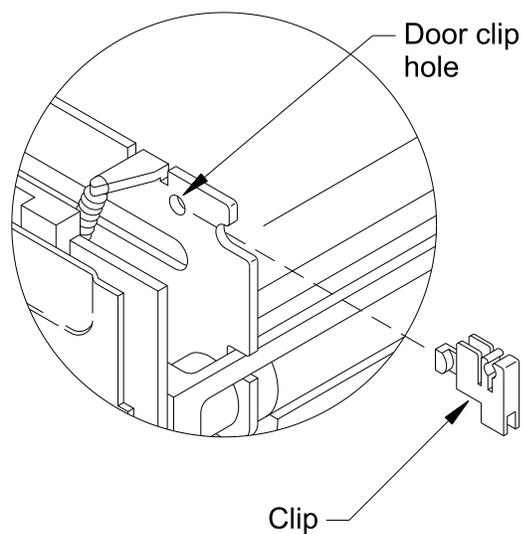

Figure 8 Replacing a door clip (left side shown)
4. If the door clips have become damaged or worn, replace them. To remove a door clip, insert a small screwdriver into the door clip hole and push gently against the clip. Slide the clip forward off the door frame (see Figure 8).